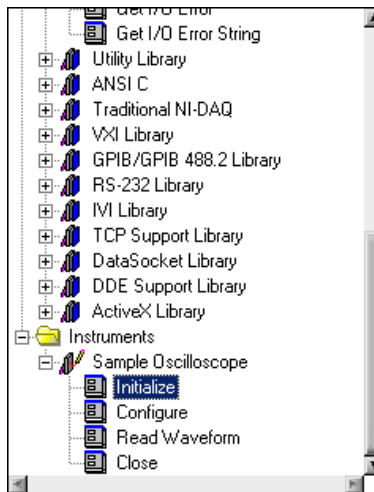

Figure 3-8. Sample Oscilloscope Instrument Driver
- Expand **Instruments»Sample Oscilloscope** in the Library Tree. The sample oscilloscope driver contains four functions for communicating with a scope, as shown in Figure 3-8.